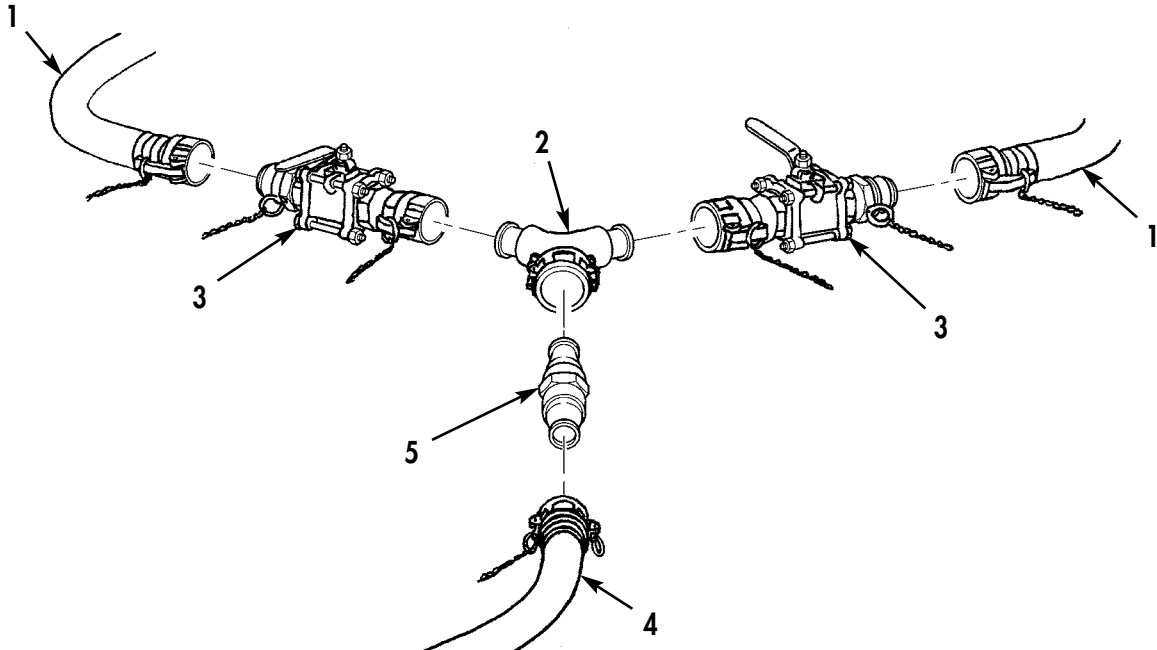

Figure 3. Ball Valve Connections.
5. Remove plug and cap, and connect ball valve (Figure 3, Item 3) to 2 in. (51 mm) DIA x 10 ft (3 m) long hose assembly (Figure 3, Item 1) on two drums.
6. Remove two plugs and caps, and connect Y-fitting (Figure 3, Item 2) to two ball valves (Figure 3, Item 3).
7. Remove plug and cap, and connect male adapter (Figure 3, Item 5) and 2 in. (51 mm) DIA x 10 ft (3 m) long suction hose assembly (Figure 3, Item 4) to Y-fitting (Figure 3, Item 2).